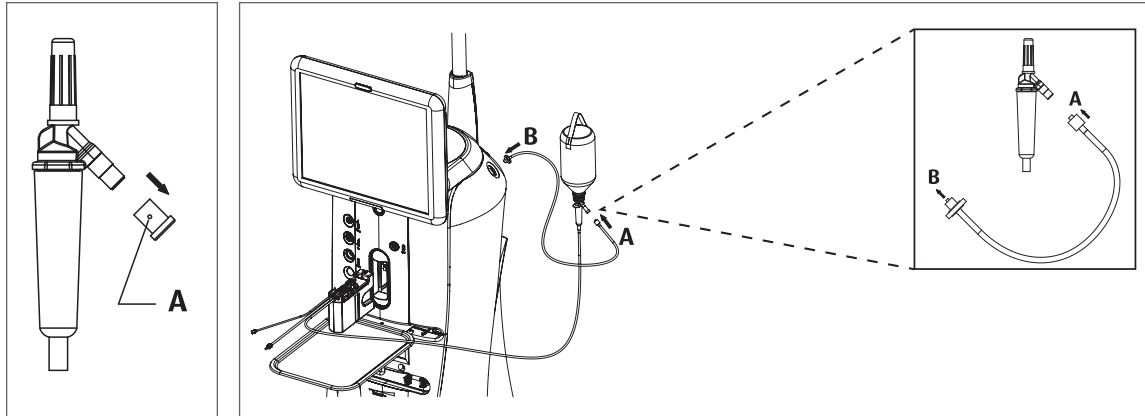

Figure 4.28. Pressurized Infusion Setup.
1. Remove the filter cap (A) from the bottle spike venting port that comes with the system disposable pack in Figure 4.28.
2. Connect the Air Tubing Line male connector to the bottle spike venting port (A) in Figure 4.28.
3. Connect the Air Tubing Line filter to the microsurgical system air source (B) in Figure 4.28.